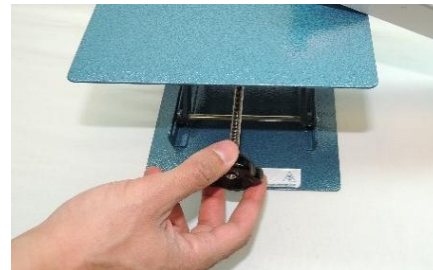

Figure 4.12: Increasing the angle of inclination.
- 2- Place the frictional block with its rubber face on the inclined track (7).
- 3- Use the lab jack (9) knob to increase the angle of inclination α gradually as shown in Figure 4.12 until the critical inclination angle α_c is reached (*the angle at which the block starts to slide*).